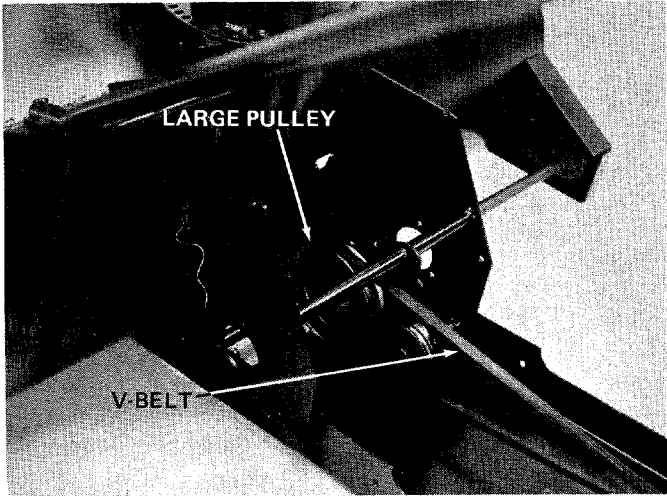

FIGURE 14
- ← 11. Position V-belt over large pulley on snow thrower housing. See figure 14.